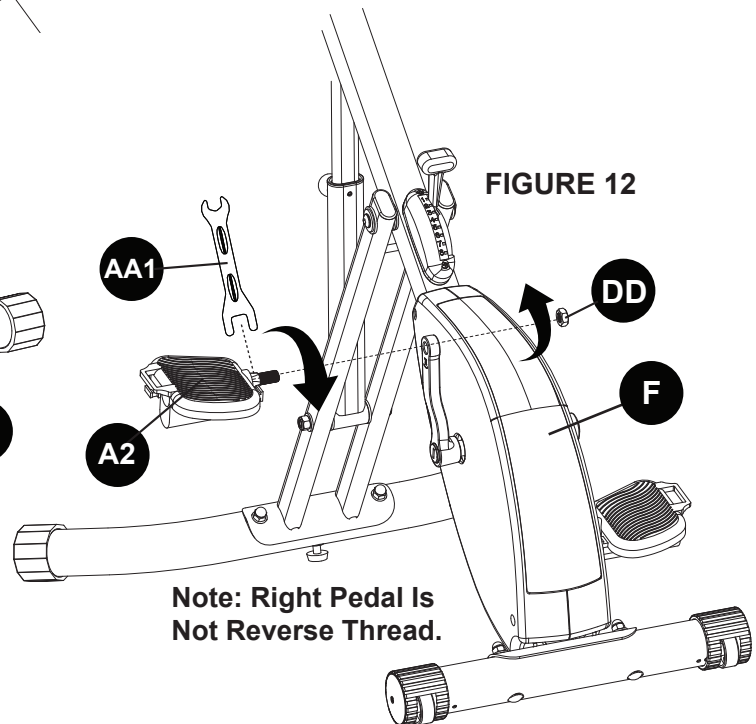

FIGURE 12
Step 12: The Right Pedal (A2) is installed the same way using the supplied wrenches. (Right pedal is not reverse thread) (AA1) (AA2). **Figure 12**